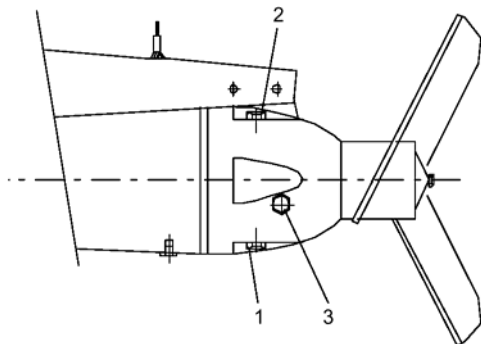

Fig. 18
2. Remove the screw (pos. 2), see fig. 18
3. Remove the oil drain screw (pos. 1) and allow the oil to drain from the chamber. Let the oil stand in a glass for approx. 10 minutes and check if it contains water. If the oil contains water, the shaft seal must be replaced.